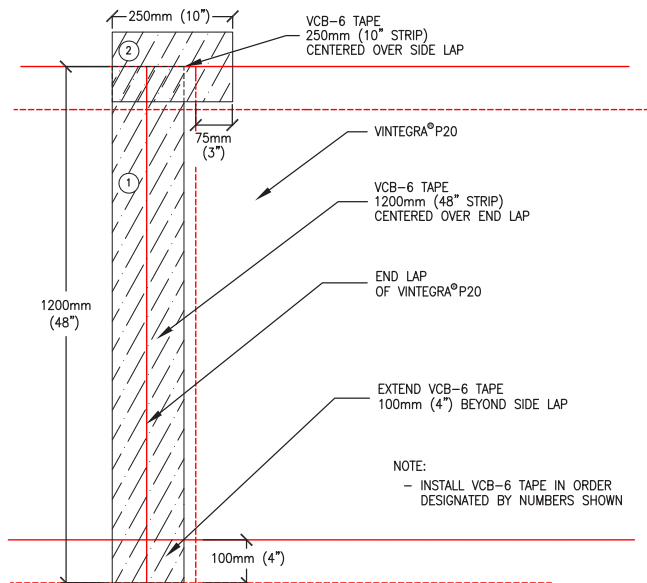

FIGURE 1.2
adequate contact to all three membrane sheets that formed a T-Joint. (Figure 1.2) Firmly press all taped areas with a silicone roller. Sealing tape at membrane edge lap transitions is best accomplished using a "V" roller or the edge of the silicone roller pressed into the membrane edge crease.
At corner transition sheet ends, overlap the VINTEGRA® P20 membrane to the adjacent sheet end a minimum 100mm (4"). Cut and apply VCB-6 TAPE centered along the membrane end lap and extend the tape past on both sides of the end lap a minimum 100mm (4") (Figure 1.2, Page 7). Then install a minimum 300mm (12") long strip of VCB-6 TAPE on both sides of the sheet end, sealing the entirety of the T-Joint overlap. Firmly press all taped areas with a silicon roller.
4. Firmly roll entire lap with a silicone roller. For roll ends, overlap the VINTEGRA® P20 membrane to the adjacent sheet end a minimum 100mm (4"). Cut and apply VCB-6 TAPE centered along the membrane end lap and extend the tape past both sides of the end lap a minimum 100mm (4") (Figure 1.2, Page 7) The T-Joints formed at either side of the end lap shall be sealed with a 300mm (12") strip of VCB-6 TAPE. Align the tape strip parallel with the side laps, centered at the roll end lap. Care should be taken to ensure the tape strip has adequate contact to all three membrane sheets that formed a T-Joint. Firmly press all taped areas with a silicone roller. Sealing tape at membrane edge lap transitions is best accomplished using a "V" roller or the edge of the silicone roller pressed into the membrane edge crease.